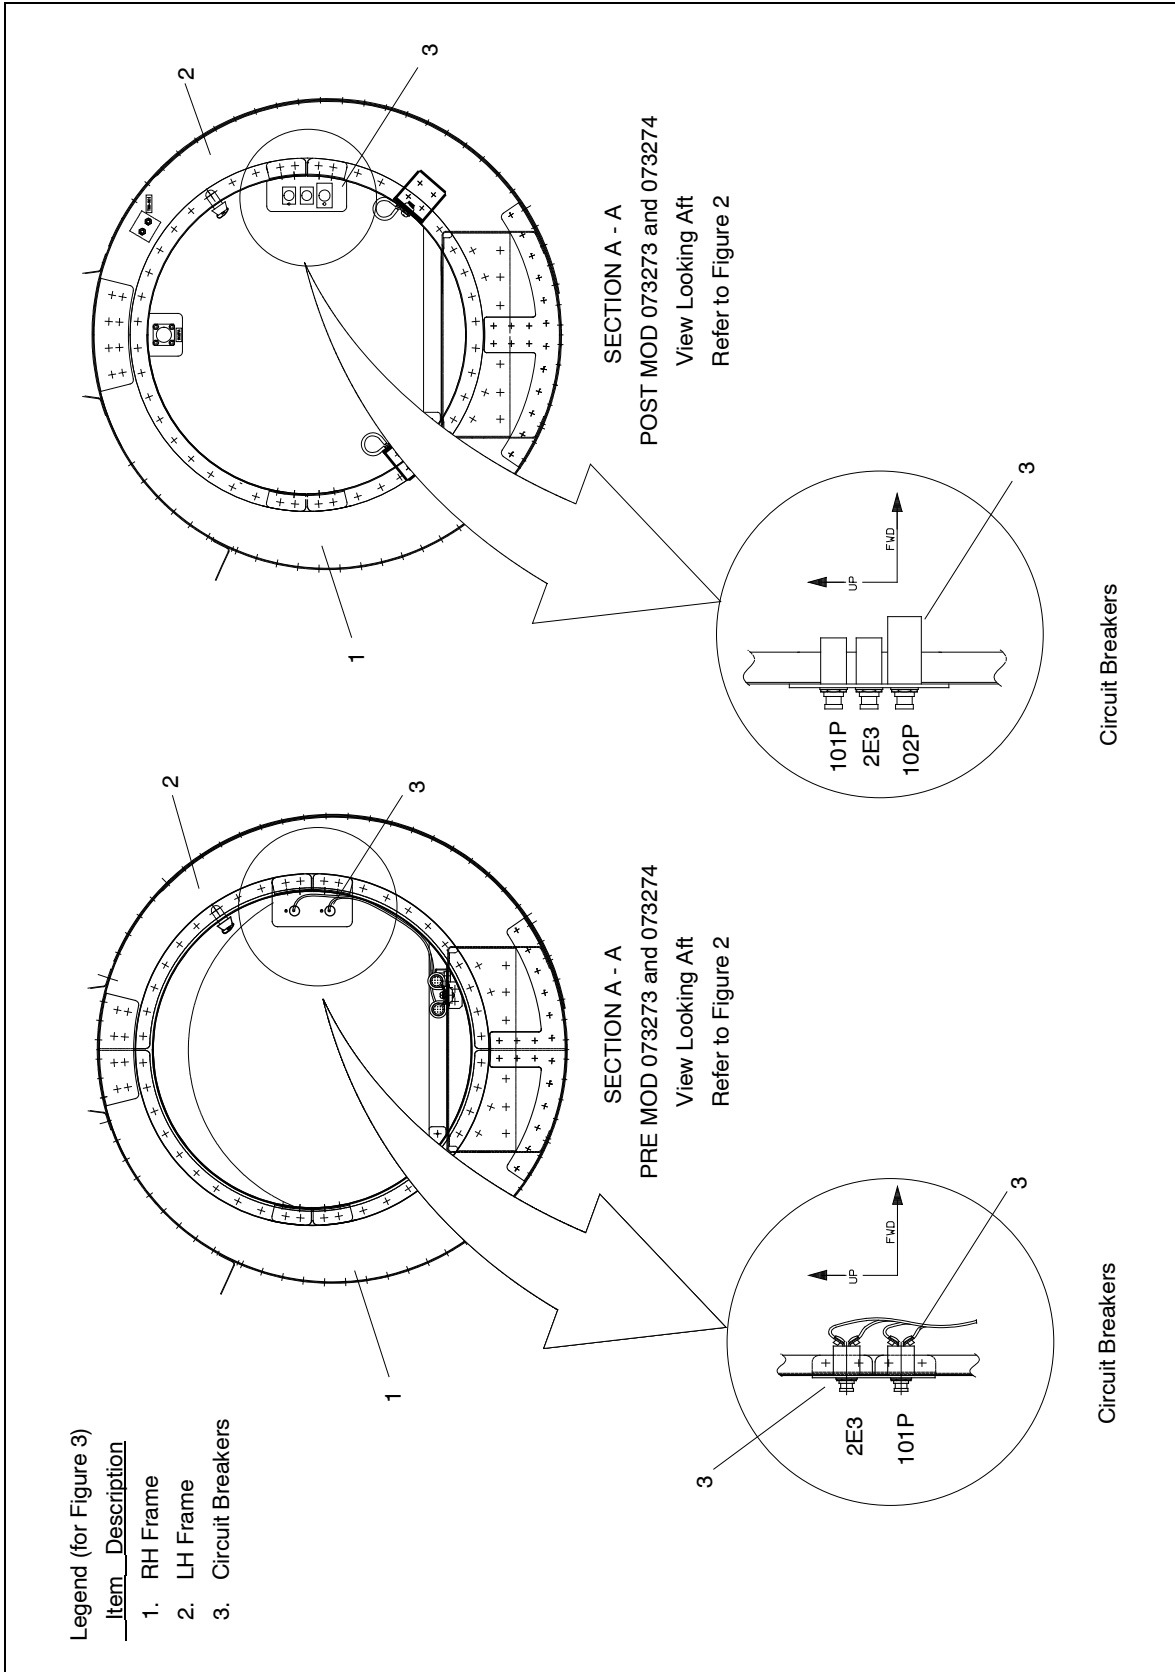

Figure 3 AS 350 Battery Compartment PRE and POST MOD 07-3273 and 07-3274 (detail views STN A 1817)
- LH and RH Frame (Refer to Figures 3 and 6)